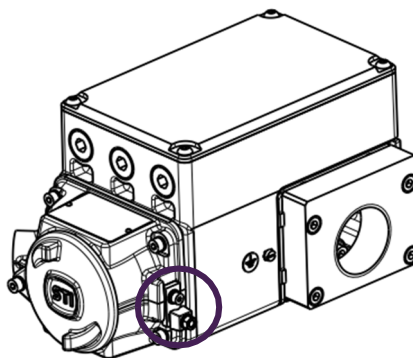

Figure 23
2. Using a local earth connection. In this case there is a residual risk of "misalignment" of the two earthing points and the internal voltage limiters can be activated causing the fuses to blow. If this happens, the barrier is rendered unusable and unrepairable, and it must be substituted. To use this method make sure that the yellow and green wires are properly connected to the connectors pins J1/2 and J2/2). Then, use the external earth connector. See figure 23 and annex A.